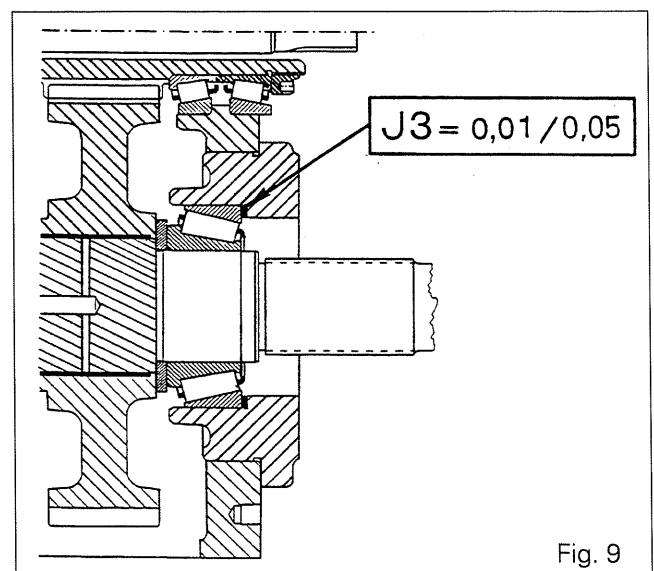

Fig. 9
28. Shim (Fig. 9) to obtain a play of: